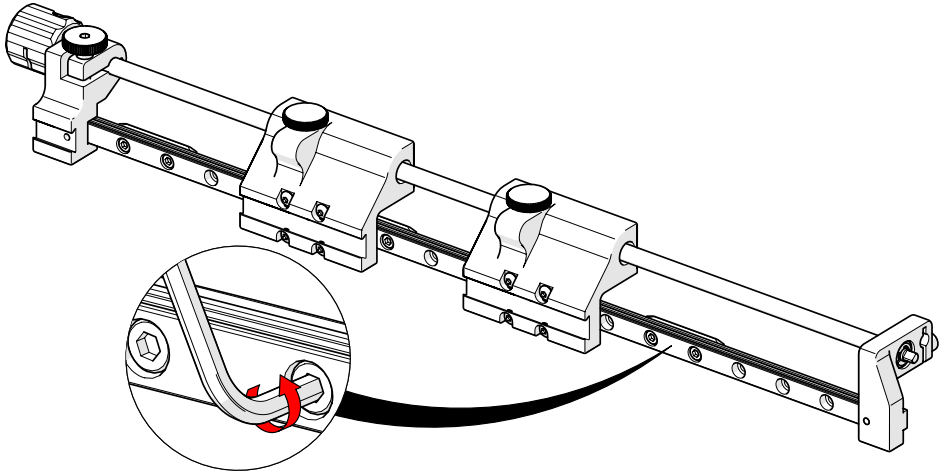

Fig. 67 - Slightly loosen all dovetail nuts
1. To install the PPS to a frame bar, ensure all the dovetail nuts are loose (Fig. 67) using a 2.5 mm hex wrench (Fig. 28).